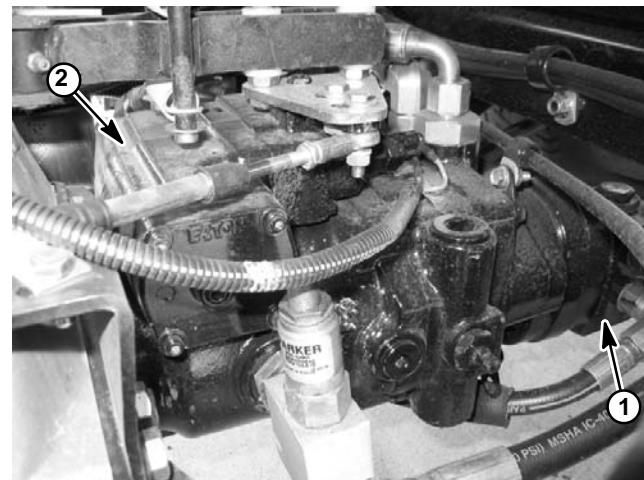

Figure 27
6. Support the gear pump to prevent it from falling (Fig. 27). Remove two (2) cap screws and flat washers retaining gear pump to piston pump.